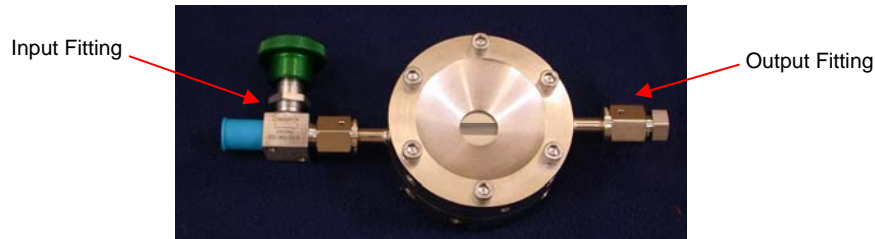

Figure 1 CRV feed and return fittings
In a standard CRV, the main gas fittings (2) feeding and returning samples to and from the cell will be 1/4" VCR. These fittings are located on the sides of the cell, one on each side, Figure 1. Each fitting opens into a channel that distributes the flow uniformly through the cell. Both fittings have a standard VCR gland and a female nut, and the connections you supply should be 1/4" VCR with a male nut.